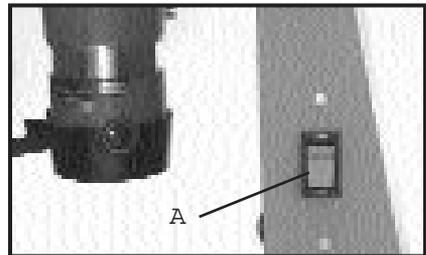

Fig. 15
**TO START MOTOR** Move switch lever (A) Fig. 15 up to the ON position.
**TO STOP MOTOR** Move switch lever (A) Fig. 15 to the OFF position.